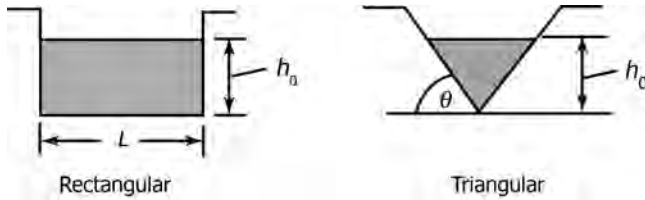

FIGURE 4.40 Rectangular and triangular types of weirs.
- The two types of weirs commonly used are the rectangular weir and the triangular weir as shown in Figure 4.40.
where q is measured in m^3/s ; L is the crest length in meters; $g = 9.80665 \text{ m/s}^2$; h_0 = weir height in meters; and θ is the angle as shown in Figure 4.40. These formulas were developed for flow of water and require corrections for other liquids.